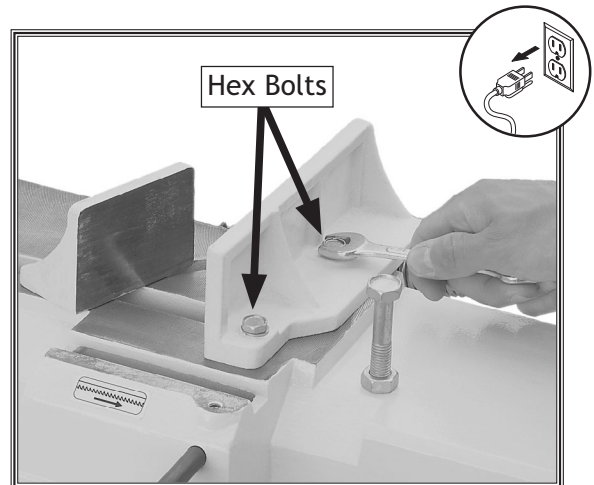

Figure 31. Loosening vise hex bolts.
2. Loosen the hex bolts on the stationary vise jaw, as shown in Figure 31.